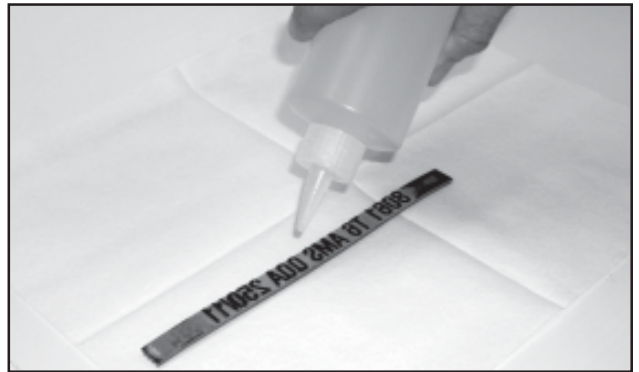

FIGURE 48
- 1 - Place the contaminated die on top of several layers of paper towels to absorb the excess liquid. Pour just enough soapy water on the face of the printing die to cover the die face as shown in Figure 48.**